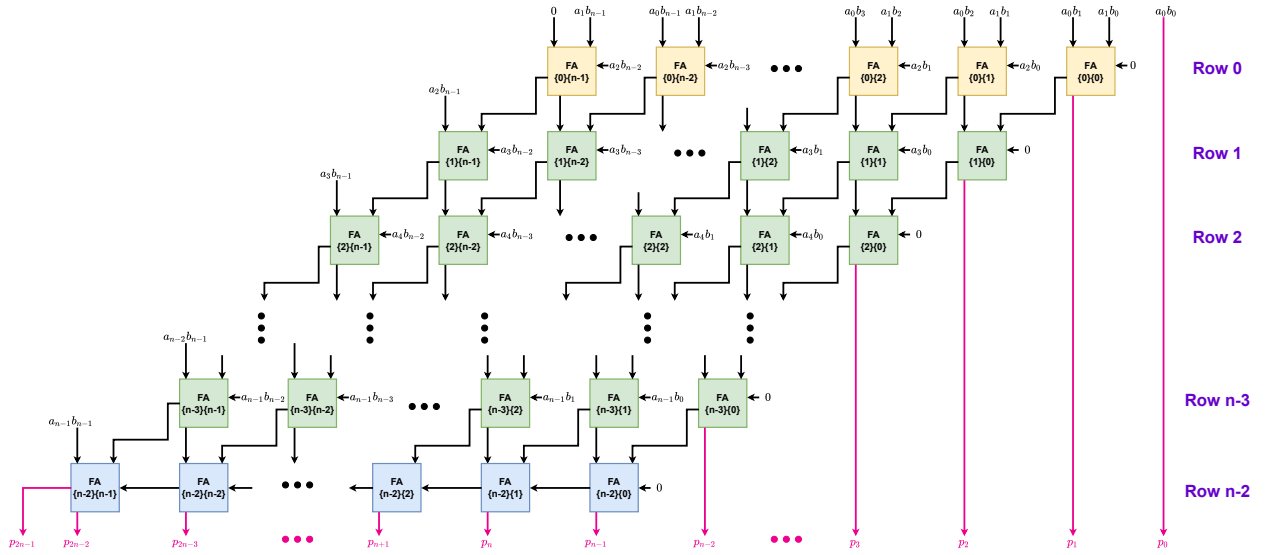

Figure 3: Carry save multiplier architecture
- The architecture of the carry save multiplier is shown in Figure 3 (FA indicates full adder). It requires $n-1$ rows, each of which has n full adders. Create five $(n-1) \times n$ bit signals `FA_a`, `FA_b`, `FA_cin`, `FA_sum`, and `FA_cout` corresponding to the inputs/outputs of the full adders and wire them together.